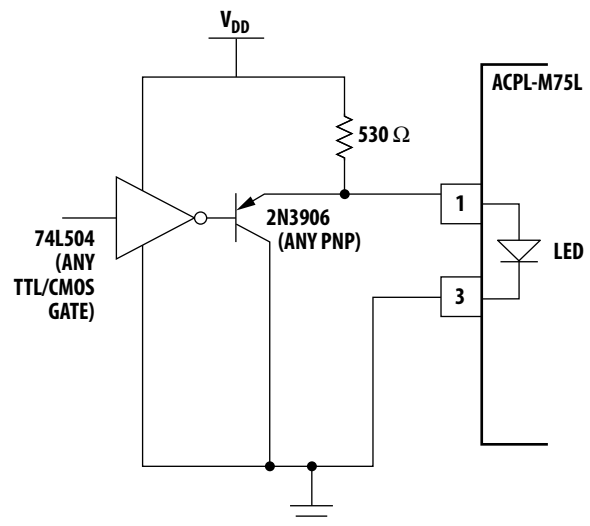

Figure 15. TTL interface circuit for the ACPL-M75L families.
1. Use of drive circuits where current is shunted from the LED in the LED "off" state (as shown in Figures 15 and 16). This is beneficial for good  $CM_H$ .
Using any one of the drive circuits in Figures 15-17 with  $I_F = 6\text{mA}$  will result in a typical CMR of  $10\text{ kV}/\mu\text{s}$  for ACPL-M75L, as long as the PC board layout practices are followed. Figure 15 shows a circuit which can be used with